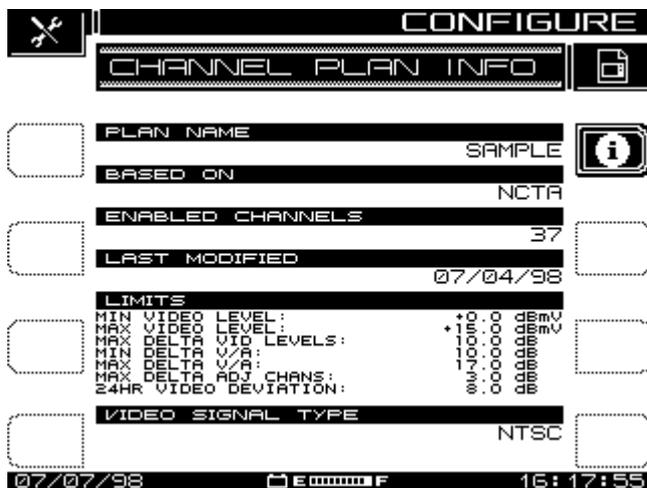

Figure 10-4: Channel Plan Info
2. Press the **Info (I)** soft key to view Channel Plan INFO about the current channel plan, Figure 10-4. This is a view-only screen, which displays main features of the plan specified in the top line.